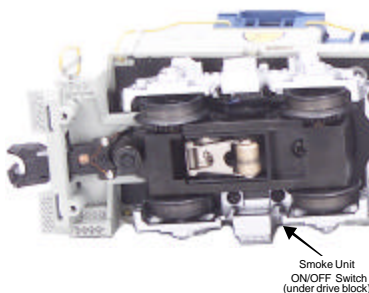

Figure 3. Smoke Unit ON/OFF Switch
3. If you choose not to prime the unit with fluid, turn the smoke unit switch located under the engine to the OFF position (see Fig. 3 on pg. 10). **Running the engine without a primed smoke unit may cause damage.** See the “ProtoSmoke Unit Operation” section of this book for more information on smoke unit maintenance.
If you choose not to add the fluid (or have already added the fluid but choose to run smoke-free), turn off the smoke unit switch located under the engine (see Fig. 3). **Failure either to add fluid to the unit or to turn it off may damage the smoke unit heating element and/or wicking material.**